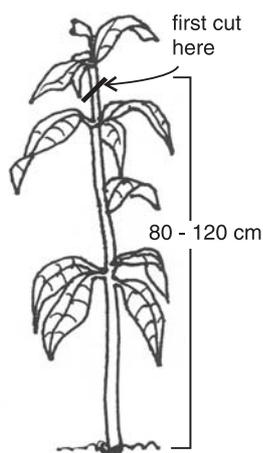

Figure 12. First cuts
1. Cut the young tree to a single trunk about 80 to 90 cm above the ground (Figure 12). Keitt trees should be cut to encourage the first branches at 100 to 120 cm. Make a cut just below a node to encourage the development of numerous side shoots.